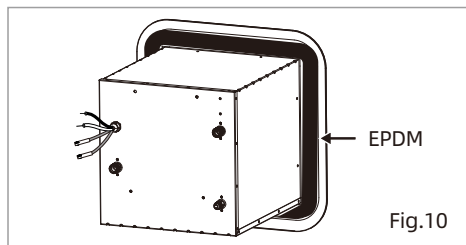

Fig.10
- ① Hot water connector ③ Gas connector
② Cold water connector
3. Attach the waterproof sealing strip (EPDM) provided with the accessory package, around the entire backside flange area and holes. (Fig.10)
- The water heater flange cover is pasted with waterproof sealing strip EPDM. (Fig.10)